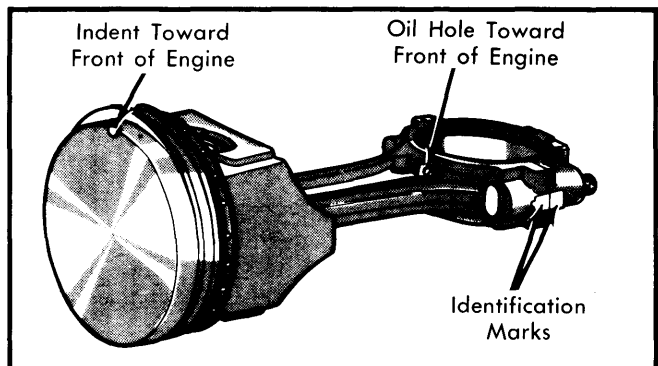

Fig. 7 Piston and Rod Installation
2) Rotate crankshaft so connecting rod journal is at center of cylinder bore. Install suitable rod bolt guides before installing piston and rod assembly in block. Using ring compressor, compress rings and install piston in cylinder bore with indent on piston and oil hole in connecting rod pointing toward timing belt side of engine. See Fig. 7.